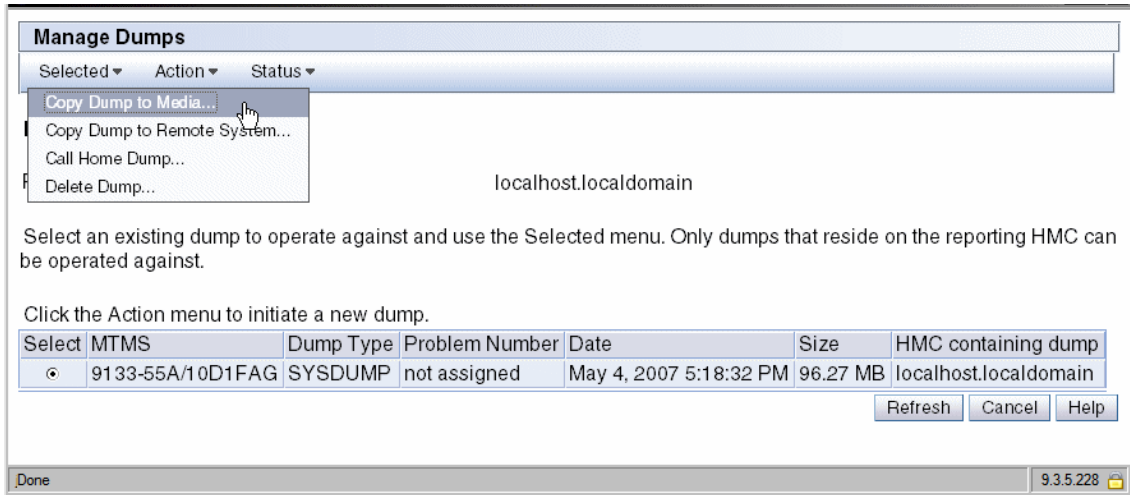

Figure 12-20 Service Management, dump results
5. Now that there is a dump available for manipulation in Service Management, select **Service Management** → **Manage Dumps**. The system dump displays in the results window as shown in Figure 12-20.